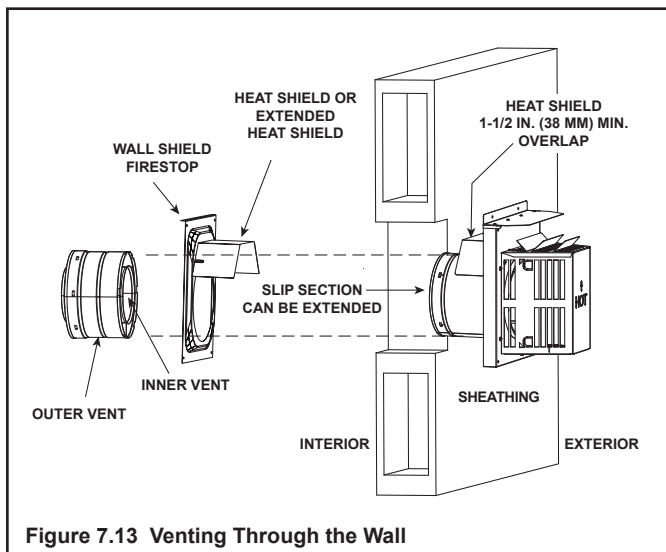

Figure 7.13 Venting Through the Wall
- **DO NOT** remove the heat shields attached to the wall shield firestop and the horizontal termination cap (shown in Figure 7.13).
There are two sections of the heat shield. One section is factory-attached to the wall shield firestop. The other section is factory-attached to the cap. See Figure 7.13.